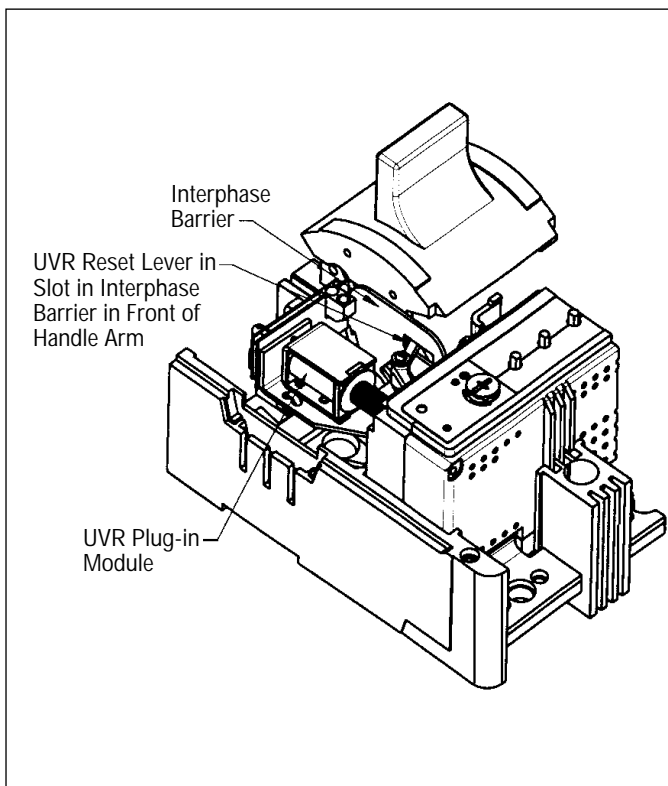

Figure 2-4 UVR Installation
- 2-8. Install UVR as described in following steps (see Figure 2-4).
- d. Push circuit breaker handle towards the ON position and hold while sliding UVR plug-in module into slots in trip unit (Figure 2-4) until retaining clip snaps into trip unit. For terminal block assemblies, slide terminal block into mounting slot on side of base as plug-in module is being positioned.